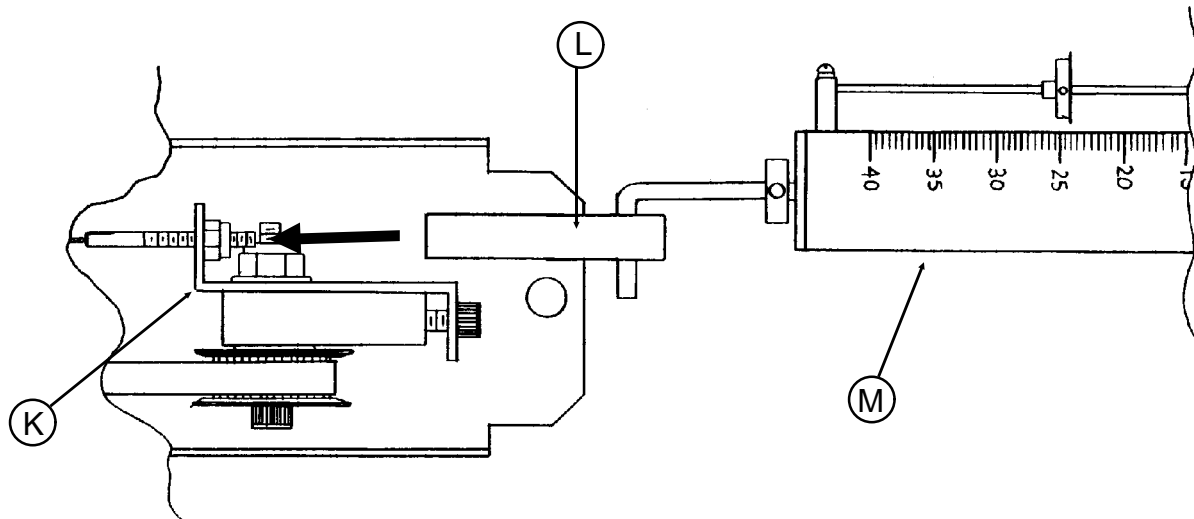

Figure 6
20. While keeping a slight forward tension on the Cable, untape the Mounting Stud and feed the end through the Cable Bracket (Figure 6-K).
26. Attach the Turnbuckle (Figure 6-L) to the end of the Mounting Stud on one side of the machine. Make sure that the Turnbuckle screws on at least two full rotations.
27. Attach a Spring Scale (Figure 6-M) to the Turnbuckle.